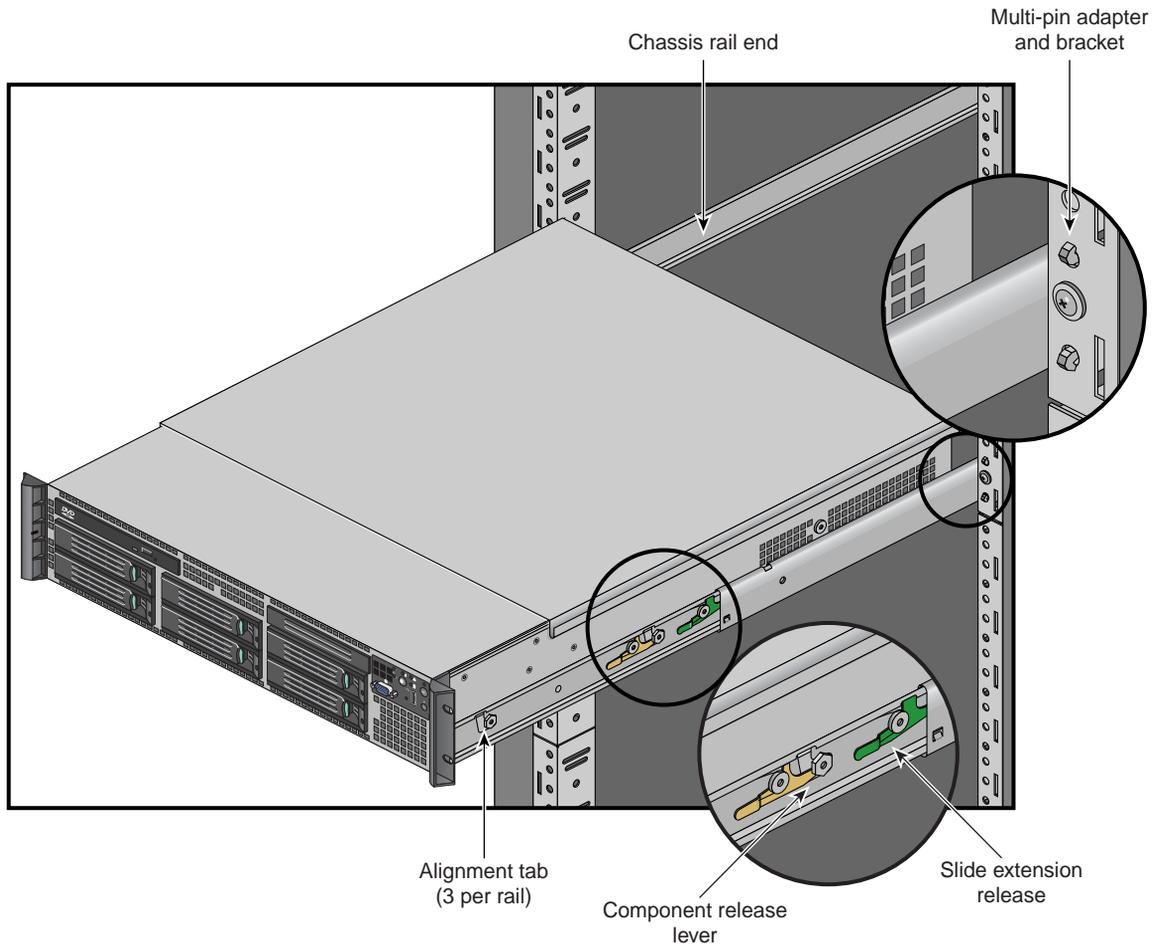

Figure 1-20 Data Manager Slide Rails
Position and secure the support rails in the rack using the information in the following steps and Figure 1-20 on page 25.
- Confirm that all the data manager's mounting studs are correctly in place on the slide rails (see Figure 1-20 on page 25 for an example), before sliding the unit into the rack.